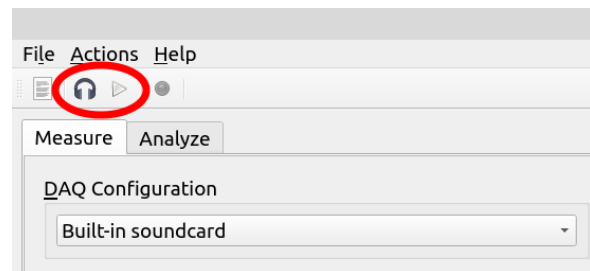
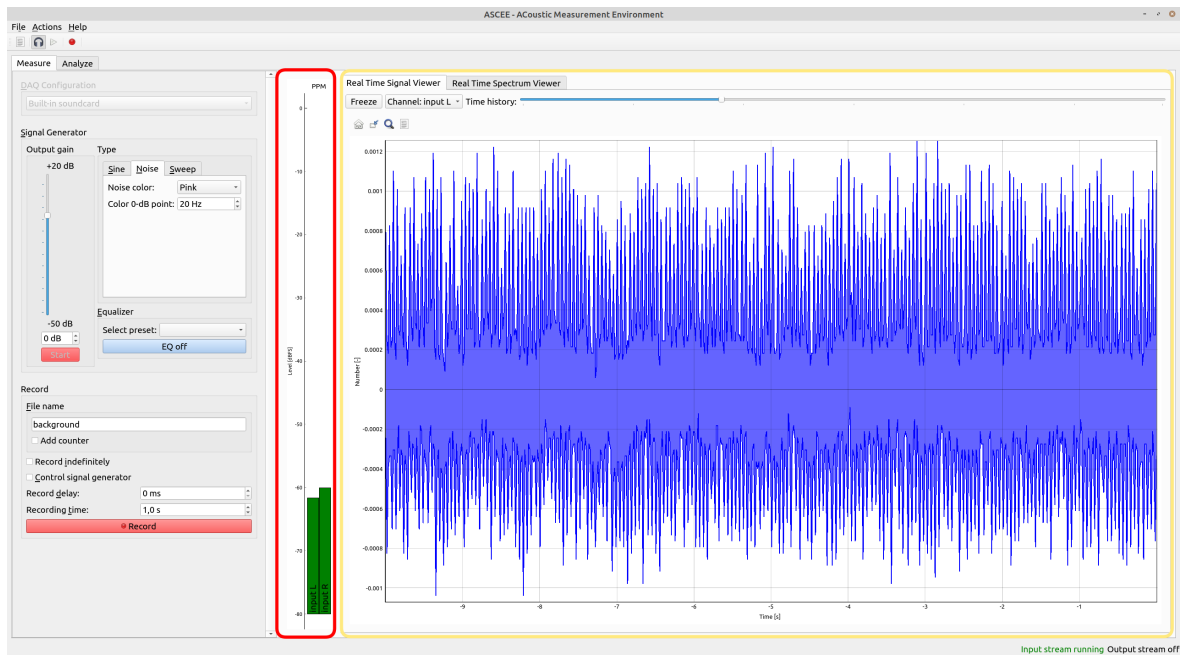

Figure 5 – Start stream.
Figure 6 – Peak Programme Meter (red) and Real Time Signal Viewer (yellow).
No data is communicated between ACME and the DAQ device until the data stream is started. To start the data stream, click the button with the headphone icon, on the top left of the screen (Figure 5). If the DAQ device is set to duplex mode, the output stream is started automatically. If not, enable it by clicking the playback icon. The input channels are monitored with a Peak Programme Meter (PPM) and a Real Time *Signal Viewer* or a Real Time *Spectrum Viewer* (Figure 6, 7). The PPM gives an overall view of the signal levels and lights up red when clipping is detected. Ideally, the levels are above -20 dB, for a good signal to noise ratio. The Real Time Viewers allow for a quick inspection of the signals. Select the desired viewer by clicking its tab. The plot in the active tab can be frozen and unfrozen by clicking the (UN)FREEZE button. The settings for the Real Time Spectrum Viewer are covered in the application note about Power Spectral Analysis. If using IEPE, wait until the power has stabilized, which takes approximately one minute. It is ready once the Real Time Signal Viewer shows a steady microphone noise signal.